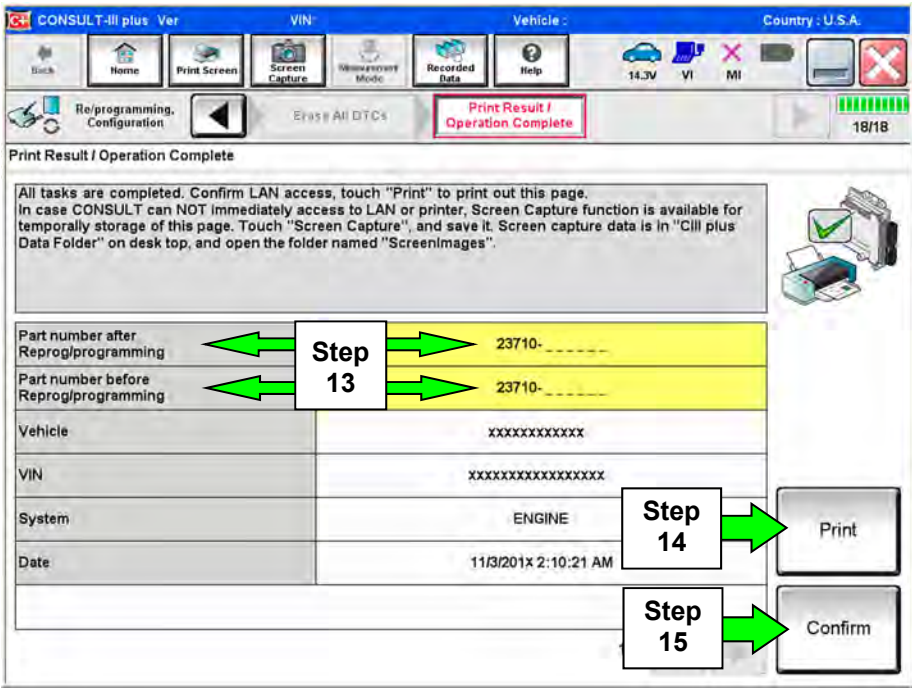

Figure 8
- 12. When the entire reprogramming process is complete, the screen Figure 8 will display.
- 14. Print a copy of this screen (Figure 8) and attach it to the repair order for warranty documentation.